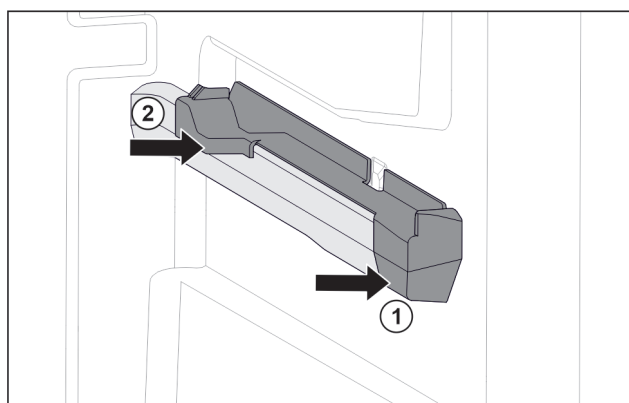

Fig. 76 Attachment on the right moulded rib
- ▶ Position attachment on moulded rib at the front. *Fig. 76 (1)*
- ▶ Press on attachment at the back. *Fig. 76 (2)*